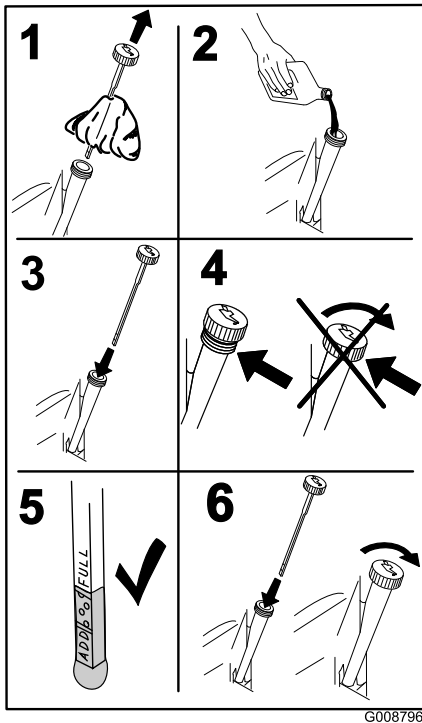

Figure 40
- Slowly pour approximately 80% of the specified oil into the filler tube and slowly add the additional oil to bring it to the **Full** mark (Figure 40).